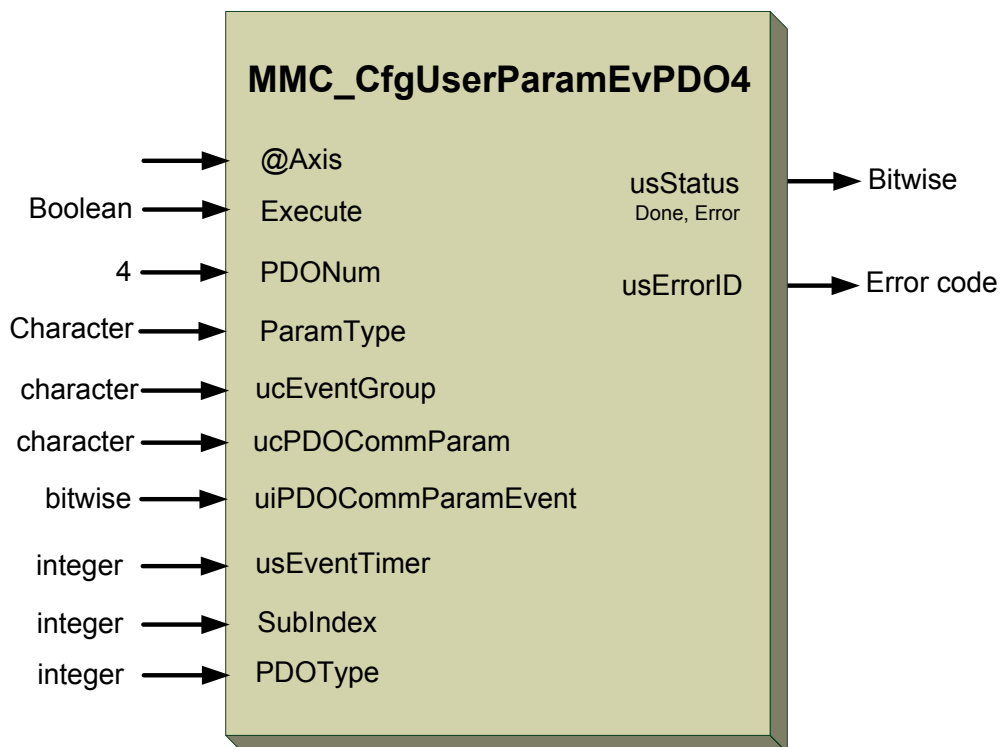

Figure 16-30: MMC\_CfgUserParamEvPDO4 function block
**Figure 16-30** describes the function block for MMC\_CfgUserParamEvPDO4 as applied within the IEC 61131 programming. The IEC function block serves CfgUserParamEvPDO3, CfgUserParamEvPDO4, CfgRegParamEvPDO3, and CfgRegParamEvPDO4 together.